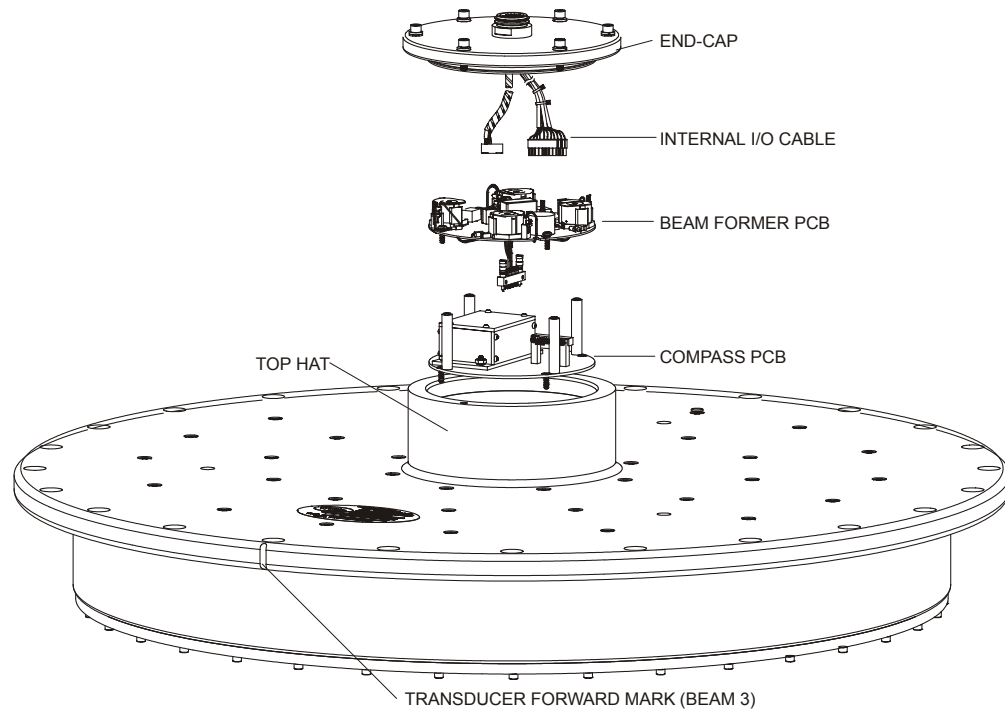
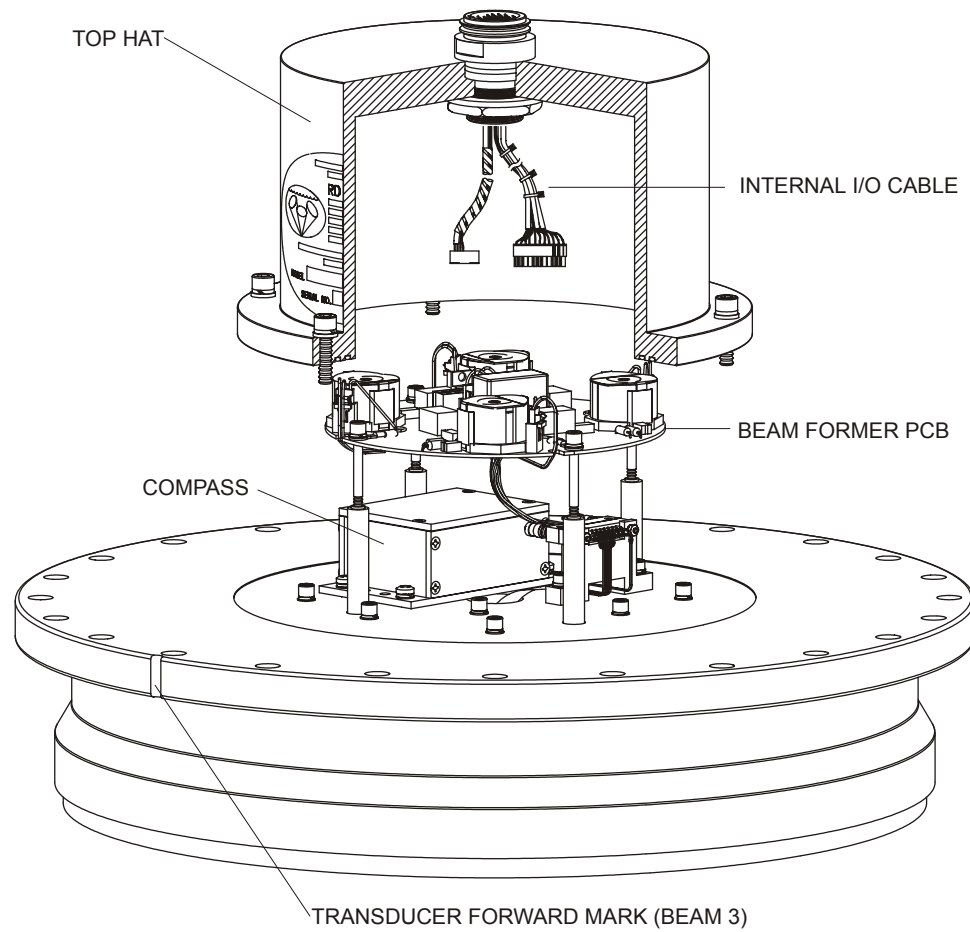

Figure 5. Transducer PCB Layout (38 kHz Round Transducer Shown)
Figure 6. Transducer PCB Layout (75 kHz Transducer Shown)
- b. Remove the end-cap/Top Hat assembly on the transducer. The end cap is attached to the beam former and TCM2 compass (Ocean Observer system only) by a cable (see Figure 5, page 7 and Figure 6, page 8). The end-cap cannot be removed until the cable has been disconnected.
NOTE. The 75 kHz transducer uses a one-piece Top Hat assembly (see Figure 6, page 8)
- a. Remove the End-Cap/Top Hat assembly (see Figure 5, page 7 and Figure 6, page 8).
- d. Install the End-Cap/Top Hat assembly (see Figure 5, page 7 and Figure 6, page 8).